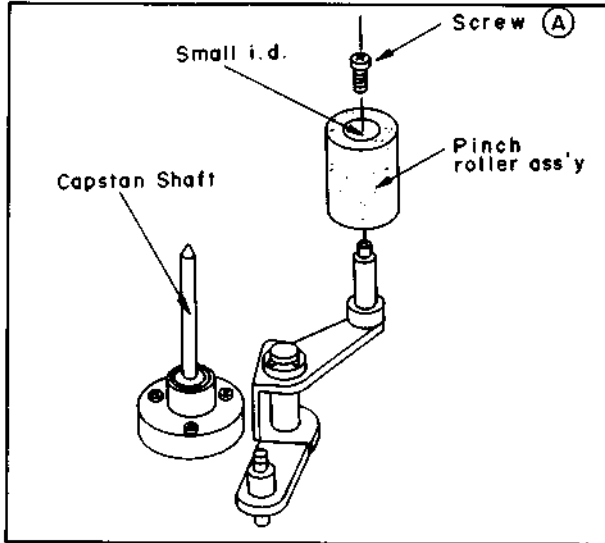

Fig. 4-28
1. Remove screw (A) and pinch roller assembly.
2. Carefully install a new roller assembly (refer to Fig. 4-28).